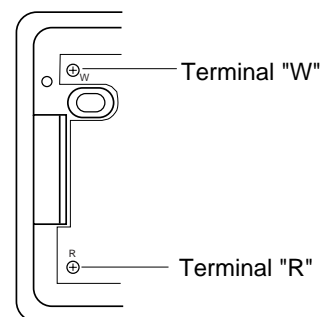

Figure 43 - Thermostat Base Terminals "W" and "R"
7. Connect one bare wire end to each terminal ("W" and "R") of the thermostat base (see Figure 43).